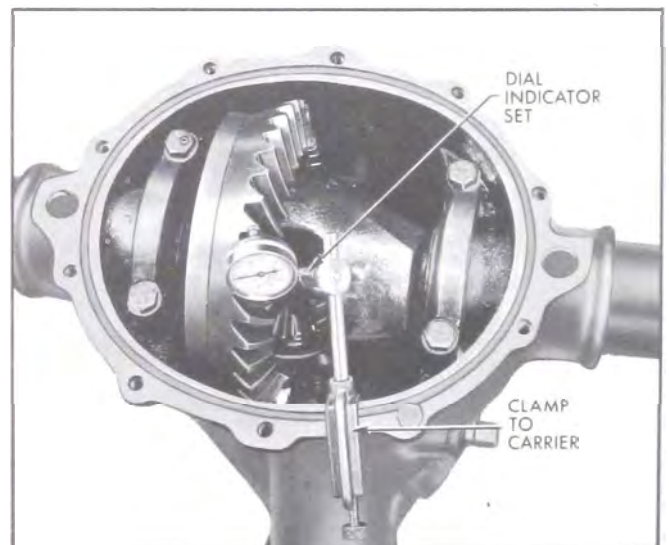

Figure 6-32—Checking Ring Gear to Pinion Backlash
2. Rotate differential case several times to seat bearings, then mount dial indicator as shown in Figure 6-32. Use a small button on indicator stem so that contact can be made near heel end of tooth. Set dial indicator so that stem is as nearly as possible in line with gear rotation and perpendicular to tooth angle for accurate backlash reading.